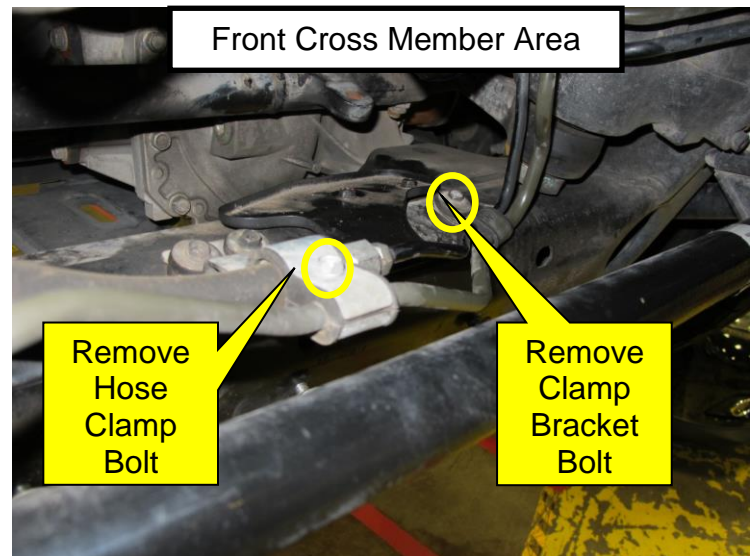

Figure 4
- Remove the power steering hose clamp and the power steering pipe clamp bracket bolts from the front cross member (Figure 4).